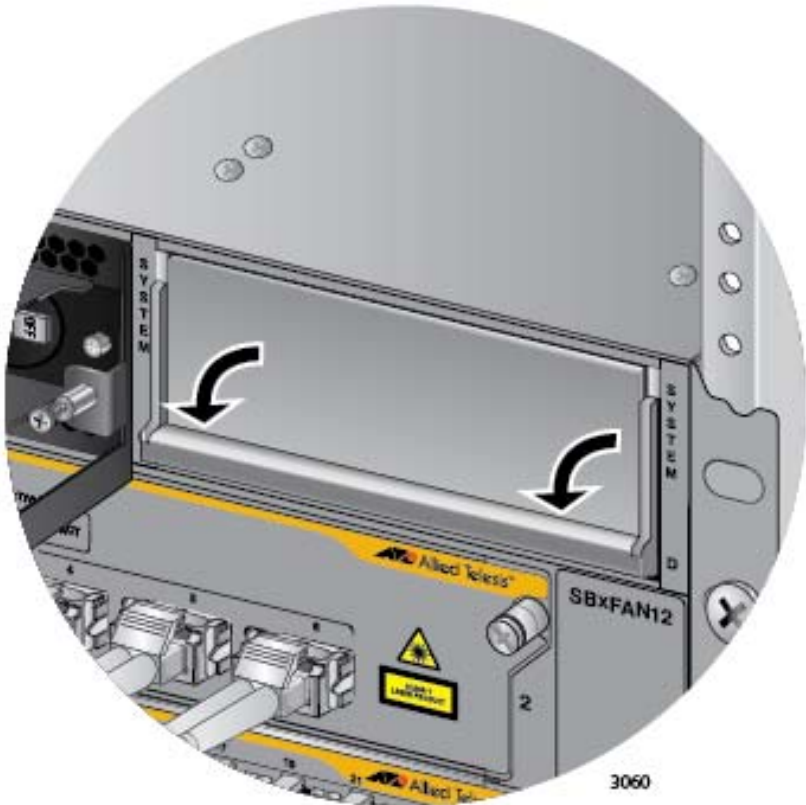

Figure 148. Lowering the Locking Handle on the Power Supply Slot Cover
14. Lower the locking handle to secure the slot cover to the slot. Refer to Figure 148 on page 219.